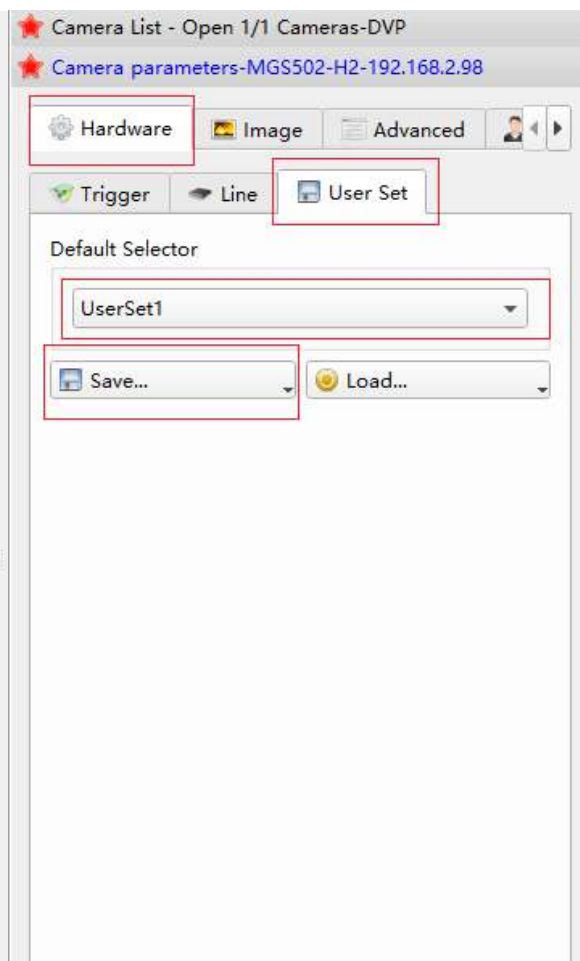

Figure 2.3.9
Step 5: Be sure to save the camera parameters, as shown in Figure 2.3.9. Otherwise, after the camera is disconnected, the parameters will be restored to default ones.